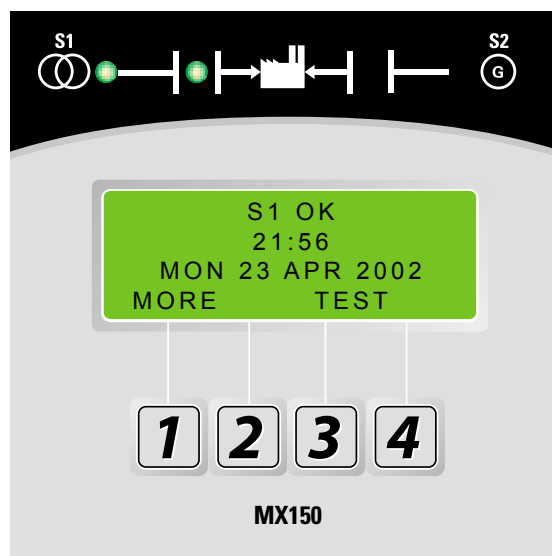

Figure 7
- B. LCD and Keypad located on the exterior of the door (see figure 7)